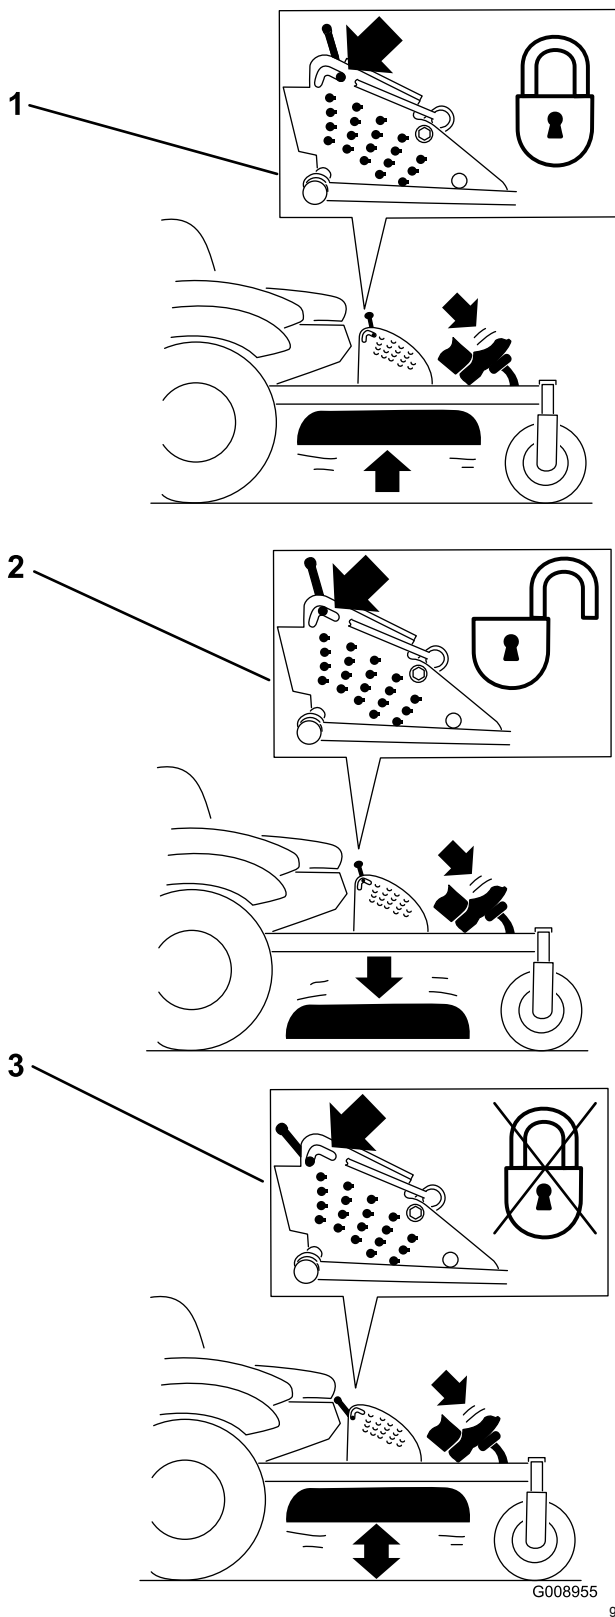

Figure 26
The transport lock has 2 positions, and is used with the deck-lift pedal. There is a LOCK position and an UNLOCK position for the transport position of the mower deck (Figure 26).
2. Push on the deck-lift pedal with your foot and raise the mower deck to the Transport position (also the 140 mm or 5-1/2 inch cutting-height position) as shown in Figure 26.